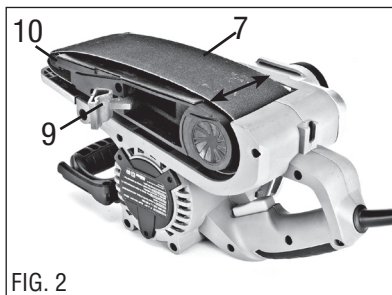

FIG. 2
INSTALLING OR REMOVING BELT (FIG 2)
2. Place the sander with sanding belt up as shown in FIG 2.
3. Pull the belt tension release lever (9) outward completely. This action retracts the front pulley (10).
3. Pull the belt tension release lever (9) outward completely. This action retracts the front pulley (10) and releases tension on the sanding belt (7).